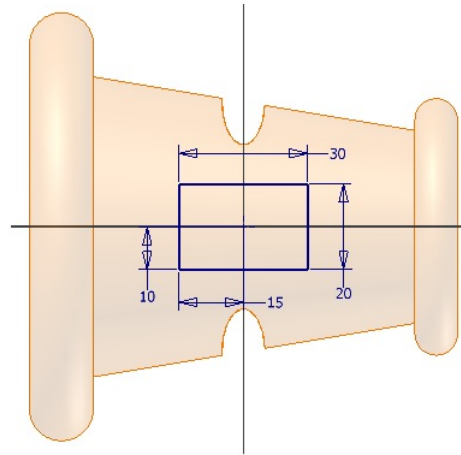

Figure 14-60 Sketch drawn on the offset plane
- f. Define a new work plane at an offset distance of 45 mm and then create the sketch shown in Figure 14-60.
2. Select this plane as the sketching plane and draw the sketch, as shown in Figure 14-60.
10. Turn on the visibility of the sketch that was used to split the base surface, refer to Figure 14-60.